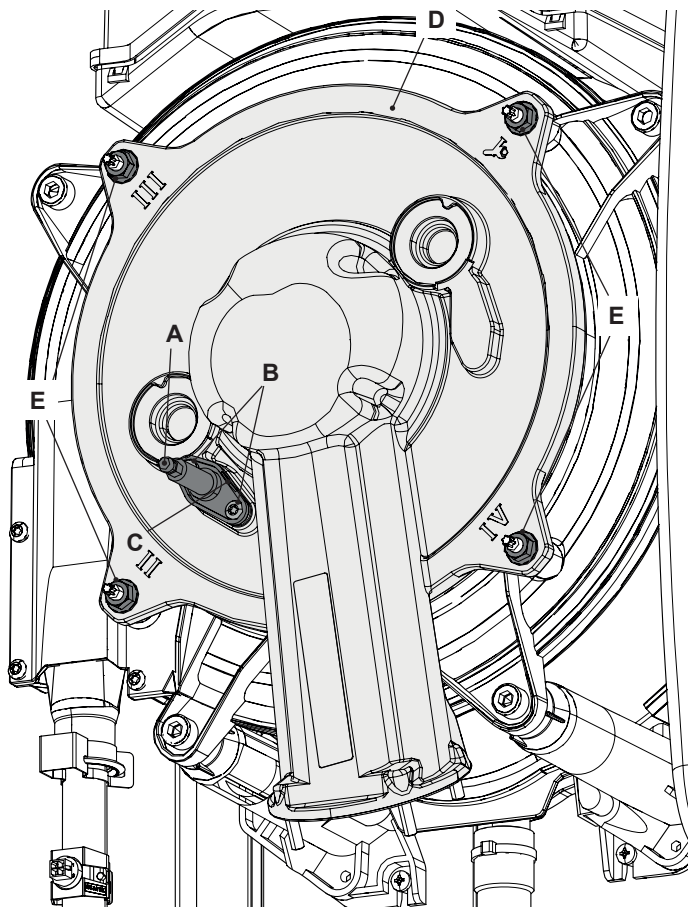

Figure 18.1
- 2 Disconnect the electrode connector "A" and the earth wire "C" (Figure 18.1).
- 3 Unscrew the nuts "E" (Figure 18.1) and remove the cover of the combustion chamber.